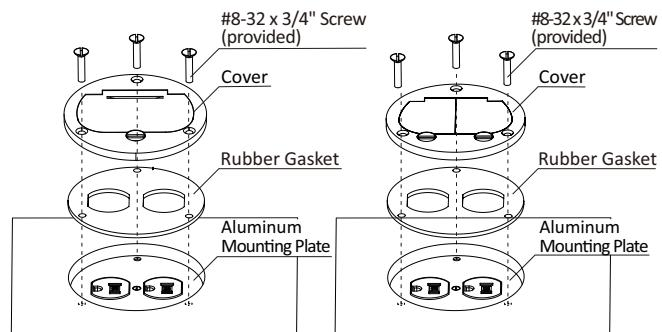
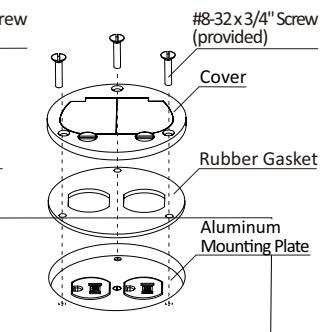

Fig. 8 812-DA-SFP Series
Fig. 9 812-DA-DFP Series
6. Place the rubber gasket on bottom box, then place the top cover ensuring their three holes are aligned. Secure them tightly to the bottom box using three #8-32 x 3/4" screws (provided). (Fig. 8 or Fig. 9).